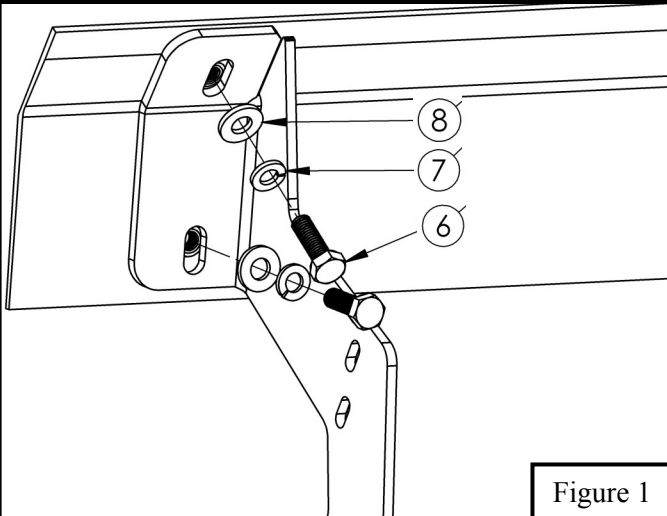

Figure 1
2. Start installation on either side of the vehicle. Locate mounting locations with factory threaded holes with screws installed in them. Remove factory screws from threaded holes, factory screws will not be used again. Locate (1) Front Mounting Bracket and loosely install it to the front mounting location on the rocker panel using (2) M8 hex head cap screw, (2) M8 split lock washer, and (2) M8 flat washer (Items 6-8). Locate the Center/Rear Mounting bracket (Items 3 & 4) and loosely secure in the correct mounting locations on the rocker panel. Loosely install using the provided M8 hardware (Items 6-8). **See Figure 1.** (NOTE: Center Bracket has a notch and Rear Bracket does not.)